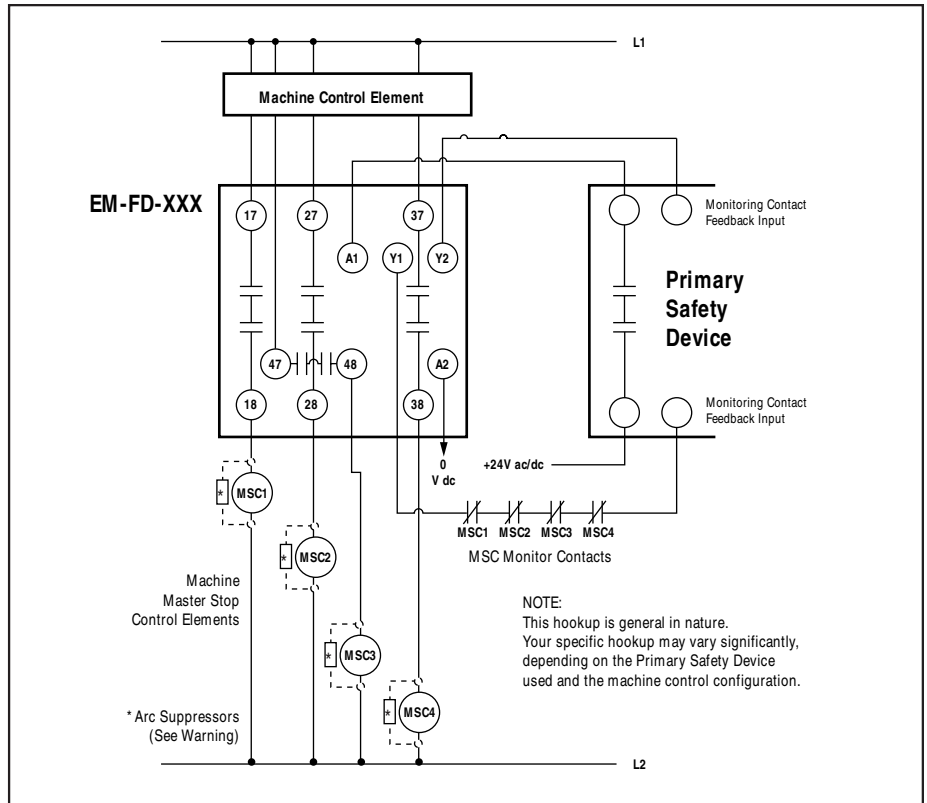

Figure 3. Generalized EM-FD-7G Series hookup
The Safety Extension Module offers an output circuit at terminals Y1 and Y2 which provides K1 and K2 contact status information for connection to the monitoring input of the Primary Safety Device (see Figure 3). This monitoring circuit prevents the Primary Safety Device from being reset if contacts of either K1 or K2 of the Extension Module fail in a shorted condition.
An EM-FD-7G Series Safety Extension Module is driven by one safety output channel of a Primary Safety Device. The design of the Primary Safety Device must meet OSHA and ANSI control reliability requirements. **The EM-FD-7G Series module must be used only with a Primary Safety Device which has a dedicated input for feedback monitor contacts** (see hookup diagram, Figure 3).
- 2) **ALWAYS connect terminals Y1 and Y2 of this Extension Module to the monitoring input of the Primary Safety Device that controls it (see Figure 3).**
### One-Channel Control (Figure 3)
The hookup diagram in Figure 3 shows a generic connection of the four safety output channels of the Safety Extension Module to Master Stop Control Elements MSC1 through MSC4. A Master Stop Control Element is defined as an electrically powered device, external to the Extension Module, which stops the machinery being controlled by immediately removing the electrical power to the machine and (when necessary) by applying braking to dangerous motion (reference ANSI B11.19, section 5.2: “Stop Control”). **To achieve control reliability, two redundant MSCs are required to control each machine hazard.**
To satisfy the requirements of control reliability, all MSCs must offer at least one normally closed forced-guided monitor contact. One normally closed monitor contact from each MSC is wired in series to the monitoring contact feedback input of the Primary Safety Device, as shown in Figure 3. In operation, if one of the switching contacts of any MSC fails in the shorted condition, the associated monitor contact will remain open. As a result, it will not be possible to reset the Primary Safety Device.
MSCs must offer at least one forced-guided auxiliary contact which is wired to the monitoring contact feedback input of the Primary Safety Device (see hookup diagram, Figure 3).
NOTE: *The Safety Extension Module can be used safely only when its operation is controlled via an appropriate Primary Safety Device, connected to the Extension Module according to the wiring diagram shown in Figure 3.*
- 3) Confirm proper connection of the Safety Extension Module to the controlling Primary Safety Device according to the wiring diagram (see Figure 3).